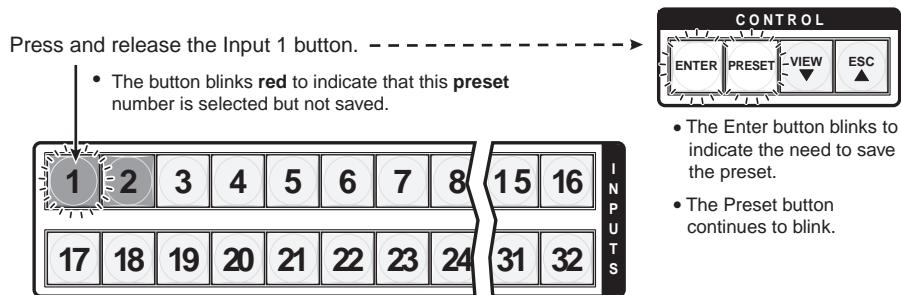

Figure 3-45 — Select the preset
3. Press and release the input or output button for the desired preset (figure 3-45).